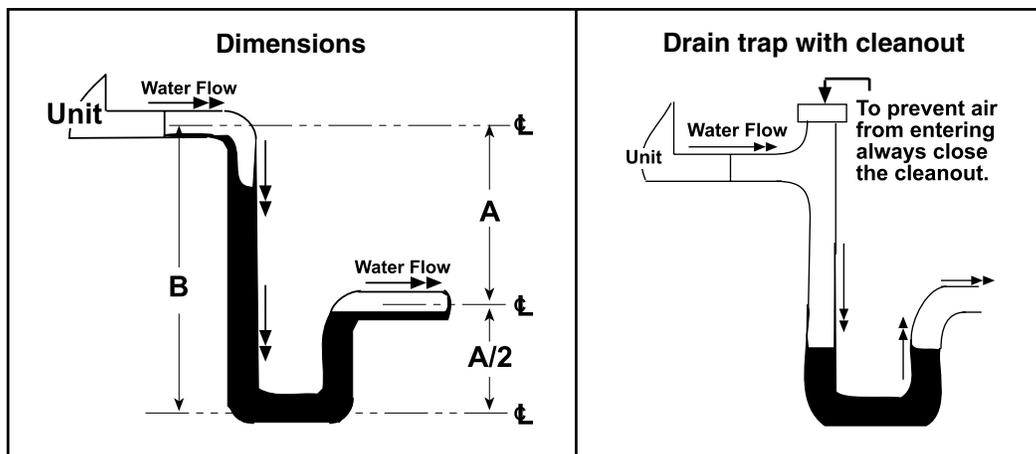

Figure 13. Condensate Drain Trap
- As shown in **Figure 13**, dimension A = 1 inch (25 mm) for each 1 inch (25 mm) of maximum static pressure + 1 inch (25 mm). Dimension B = A + A/2.
- If dimension B in **Figure 13** is not tall enough, the water seal will not hold, and air will be drawn through the drain pipe into the system. If the outlet leg of the trap is too tall, water will back up into the drain pan. As condensate forms during normal operation, the water level in the trap rises until there is a constant outflow. See **Figure 13** for the appropriate dimensions for trapping a negative pressure system.
- If the drain has a cleanout opening (see **Figure 13**), be sure to close the opening after cleaning.